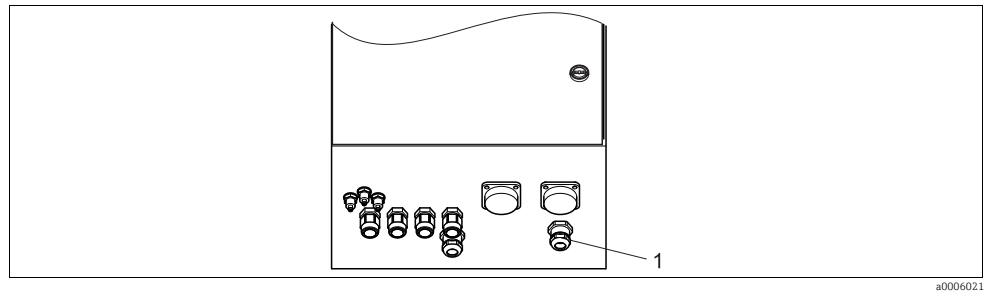

Fig. 19: Guiding the level probe cable
1. Guide the cables of the level probes for the buffer and cleaner through the three-way Pg gland behind the multihose connection (see Fig. 19).